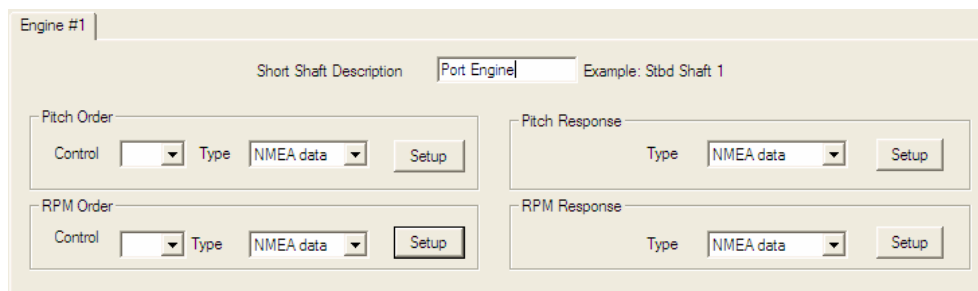

Figure A2- 30 - Engine Description – Example 1
2. Click the adjacent “Setup” button and enter the values as shown in Figure A2- 31 - Lever Command Setup – Example1 below. In the **Configure NMEA Device** window shown in this figure the target value is specified to read from field 2 if a 6 appears in field 1.